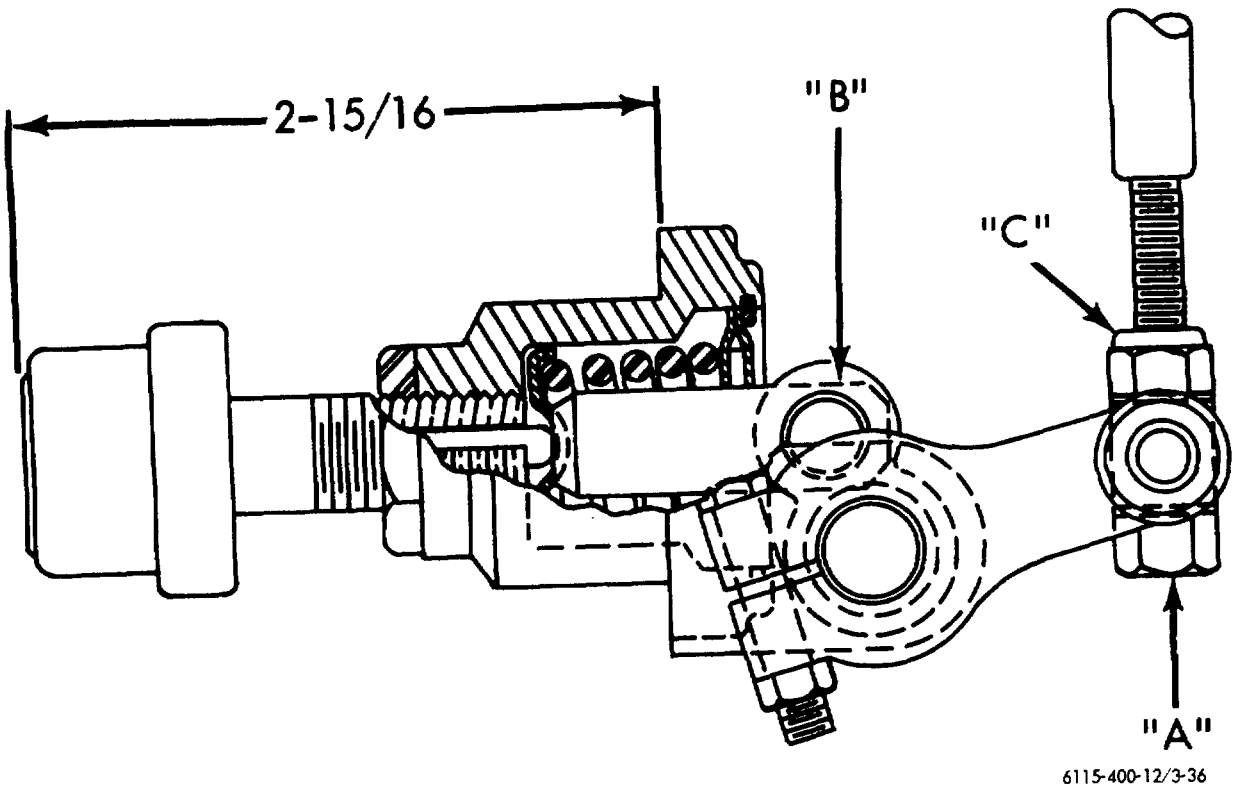

Figure 3-36. Shutter control adjustments.
- (1) If shutters are not opening at desired temperature range, remove control assembly and check for proper dimensional setting of power element in control assembly of 2 15/16 inches. See figure 3-36.
- (2) To remove slack from linkage: (Temperature must be under 150 degrees.)
- (a) Turn adjusting screw (A, fig. 3-36) clockwise until plunger "B" bottoms. Shutter should be closed.